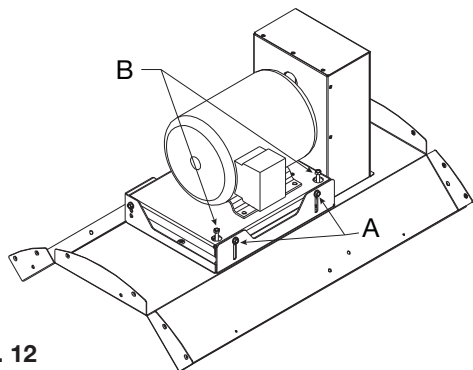

Fig. 12
7. Check belt tension. Belt tension can be adjusted by loosening two fasteners marked “A” in Fig. 12 below. The motor plate can then be adjusted up or down using the two adjustment bolts marked “B” in Fig. 12. Ensure that both adjustment bolts are altered by the same number of turns. Belt tension should be adjusted to allow 1/64 inch of deflection per inch of belt span. For example, a 15 inch belt span should have 15/64 inch (or about 1/4 inch) of deflection with moderate thumb pressure at the mid-point between pulleys (see Fig. 13). Over-tightening will cause excessive bearing wear and noise. Too little tension will cause slippage at start-up and uneven wear. Retighten “A” once tension is correct.